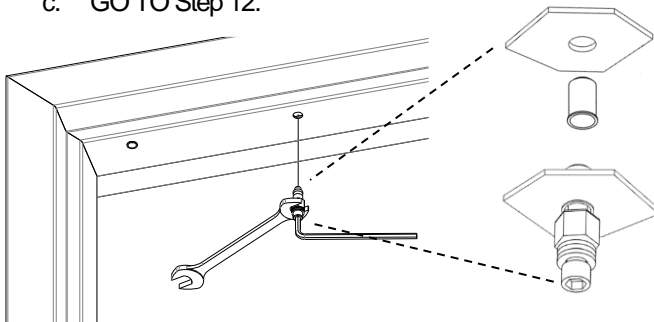

Figure 13. Installing the Blind Nuts
9. INSTALL blind nuts into each 3/8" diameter hole using the provided tool (see Figure 13, "Installing the Blind Nuts").